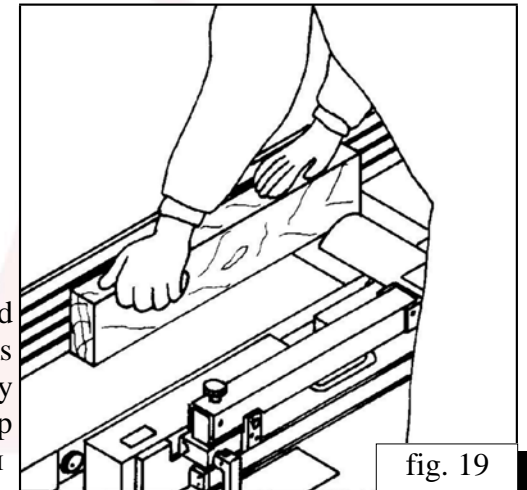

fig. 19
- ,. At the exit of the piece the palm of the right hand must also lay on the piece. (fig. 19).